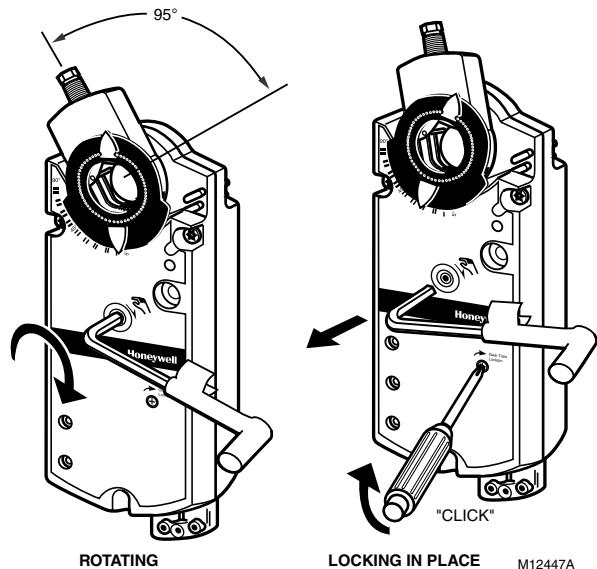

Fig. 8. Manual override of ML4195/ML8195 Spring Return Direct Coupled Actuators.
2. Insert the supplied key (Allen wrench) as shown in Fig. 8.